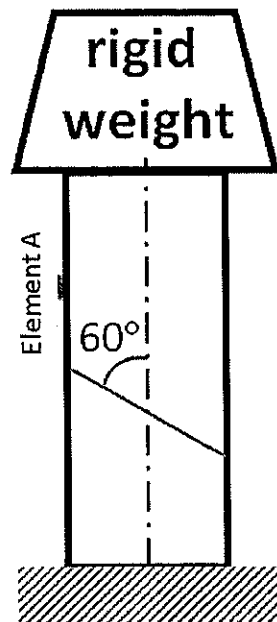

Figure 2
2. A 5 kN rigid weight is welded onto the top end of an upright thin-walled cylindrical pressure vessel as shown in Figure 2. The outer diameter of the vessel is 200 mm and it has a thickness of 1 mm. Given: $E = 200 \text{ GPa}$ and $\nu = 0.3$.
- If the rigid weight is welded offset by 40 mm to the right of the vertical axis (viewed from Figure 2) and an extra 200 kNm torque was added on the vessel, determine the principal stresses on the outer surface of the vessel at element A. (10 marks)